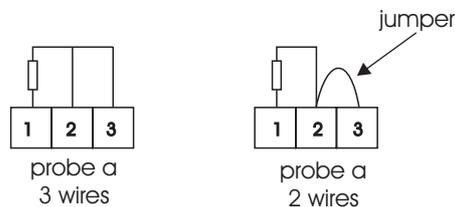

Figure 6
- the 3 wires of each probe will have the same length and section so that they have all the same line resistance. The line resistance will be lower than 10Ω , corresponding to a wire of 500 meters length and 1 mm^2 section. It is also possible to use 2 wires Pt100 probes making a link on the terminals for the line resistance measure, as shown in figure 6. In that case the temperature's measure will be affected by an error as large as longer is the probe connection cable.